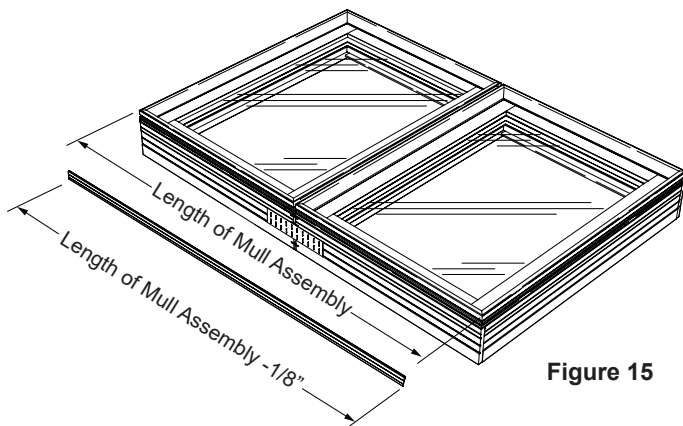

Figure 15
2. Measure the length of the mull assembly and cut the spread mull cover 1/8" shorter. (Figure 15)